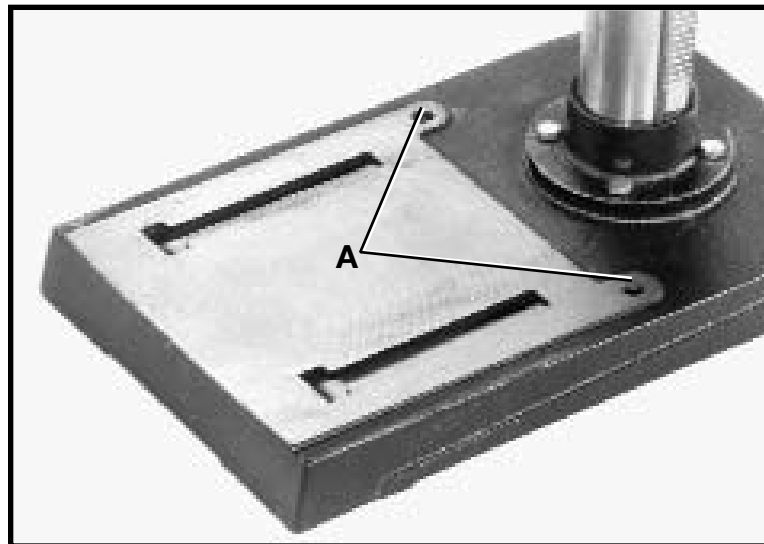
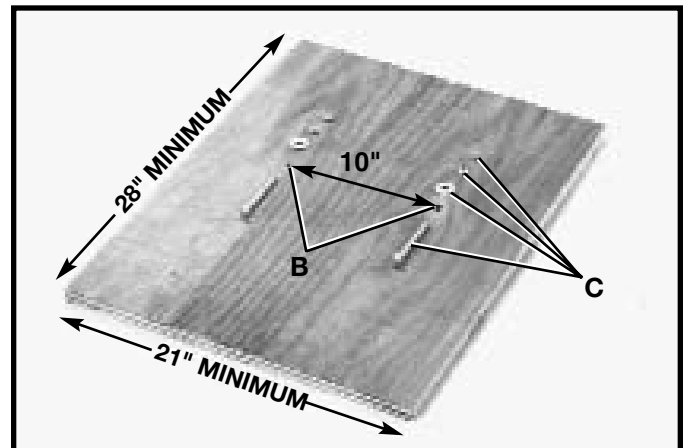

Fig. 10
Fig. 11
If your drill press is to be used in one permanent location, the drill press base must be secured to the supporting surface with fasteners through the two mounting holes, (A) Fig. 10, in the drill press base.
1. Drill two 3/8" diameter holes 10" apart (B) Fig. 11, corresponding to the mounting holes (A) Fig. 10, of the drill press base in a 21" by 28" minimum size plywood board.
2. Fasten the drill press base to the mounting board using the carriage bolts, flat washers, lockwashers, and hex nuts (C) Fig. 11, furnished with your drill press. The holes for the carriage bolt heads must be countersunk so that the bolt heads are flush or below the bottom surface of the mounting board in order to guarantee proper stability.